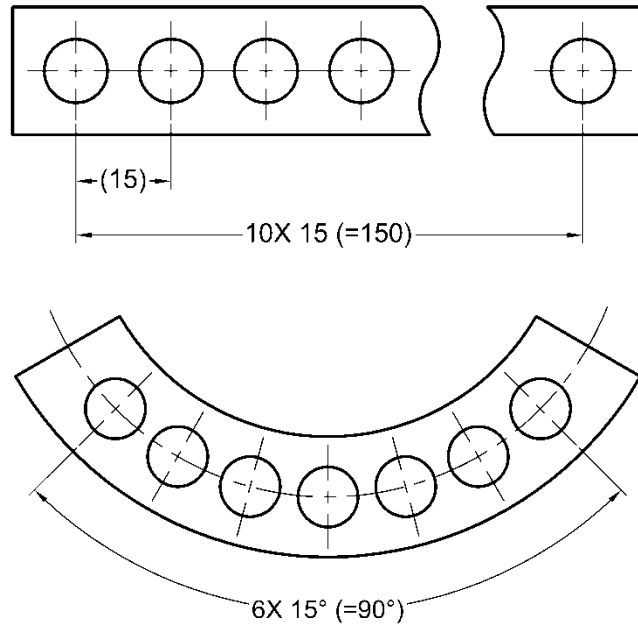

Figure 2-13: Equally spaced features
- e) Equally spaced features are specified by giving the number of spaces followed by the repeated feature symbol "X", a space, and then the dimension value of the space as shown in Figure 2-13. One space may be dimensioned and given as a reference value.